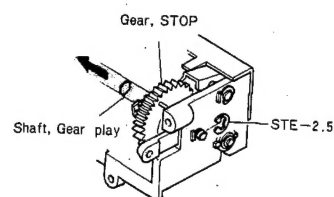

Fig. 13
- 3) Take off the E-ring, and remove the axis (gear play). At this time be sure to keep the gears in their proper order. (See figure 13)